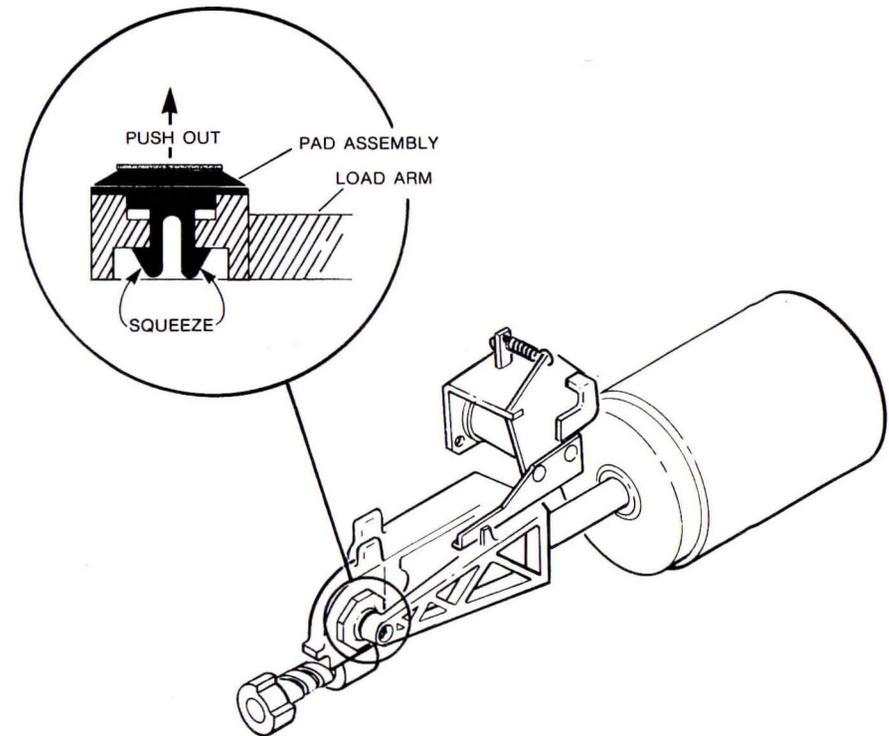

FIGURE 4-1. POP-OUT LOAD PAD REMOVAL (550)
1. Locate pop-out pad assembly, refer to Figure 4-1. This assembly fits into the tip of the head load arm.